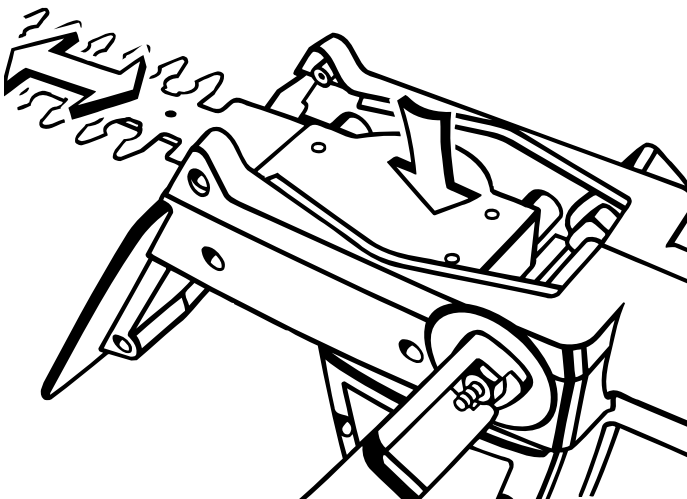

Fig. 13
7. After aligning, continue to hold blade assembly in place, then manually slide blade assembly back and forth until screw holes in grease cover align with screw holes in gear housing (Fig. 13).